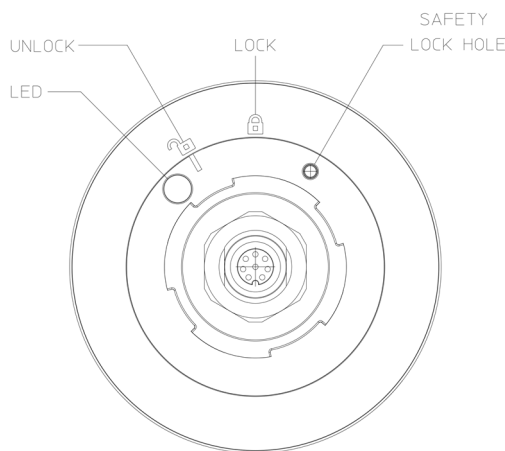

FIGURE 9: POLE MOUNT INSTALLATION STEP 2 (BOTTOM SIDE OF LT-300 GNSS RECEIVER)
Step 2: Please refer to *NMEA 0183 Baud Rate* on page 20 for details on NMEA 0183 baud rate settings and *LED Color Description* on page 20 for LED description. Figure 9 is illustrating the bottom side of the LT-300 GNSS Receiver; highlighting the 2-color LED, the locking symbols, and the safety lock hole.